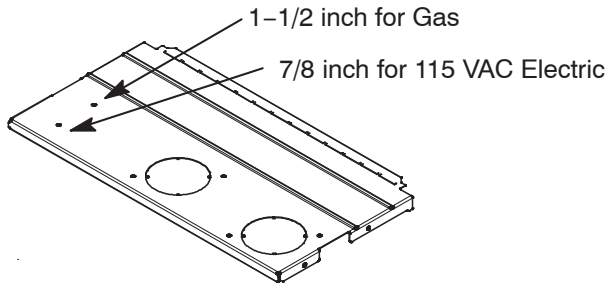

Fig. 32 – Alternate Gas and Electric Entry
NOTE: Check to ensure that external electrical box does not interfere with duct work, gas piping or the indoor coil drain. See **Fig. 32** for alternate electric entry through top panel.
5. Fasten the external electrical box to the furnace casing using two (2) sheet metal screws.
11. Connect field power and neutral leads to furnace power leads inside the external electrical box as shown in **Fig. 32**.